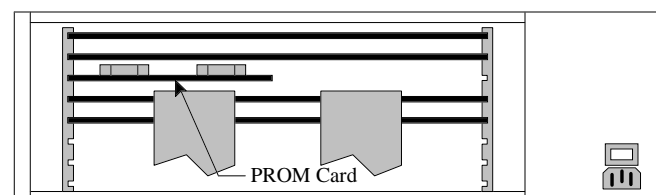

Figure 4 - PROM Card Location In Earlier VAX
4. Remove the PROM Card (see Figure 4) by pulling on the two tabs fastened to the front edge of the card. Once the card has disengaged the connector, use one hand to push up on the board above to help prevent the PROM Card from dragging as it is pulled out. (Be careful not to damage the ribbon cables and observe standard handling practices for static sensitive components.)